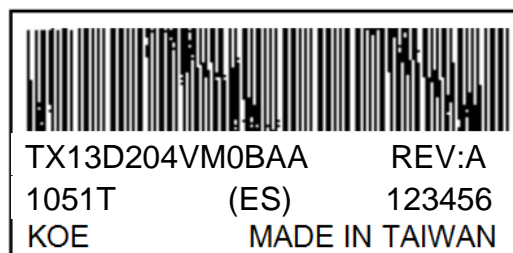

Fig. 10.2
4) The location of the lot mark is on the back of the display shown in Fig. 10.2.